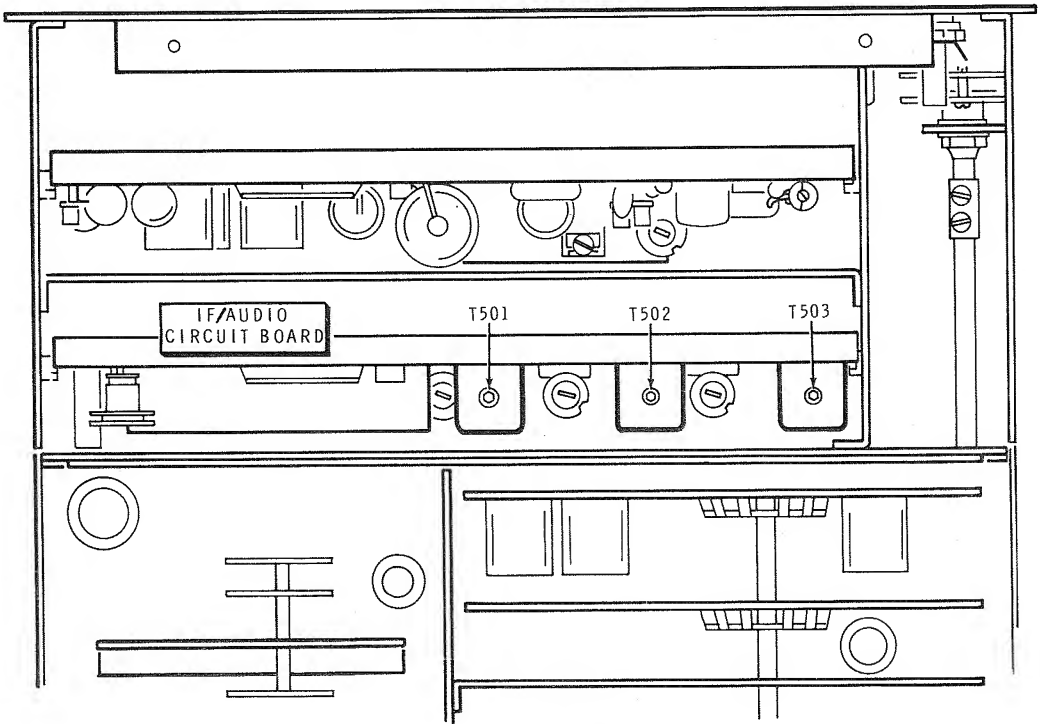

Figure 20
- ( ) Refer to Figure 20 and adjust IF transformers T501, T502, and T503 for a maximum meter reading.